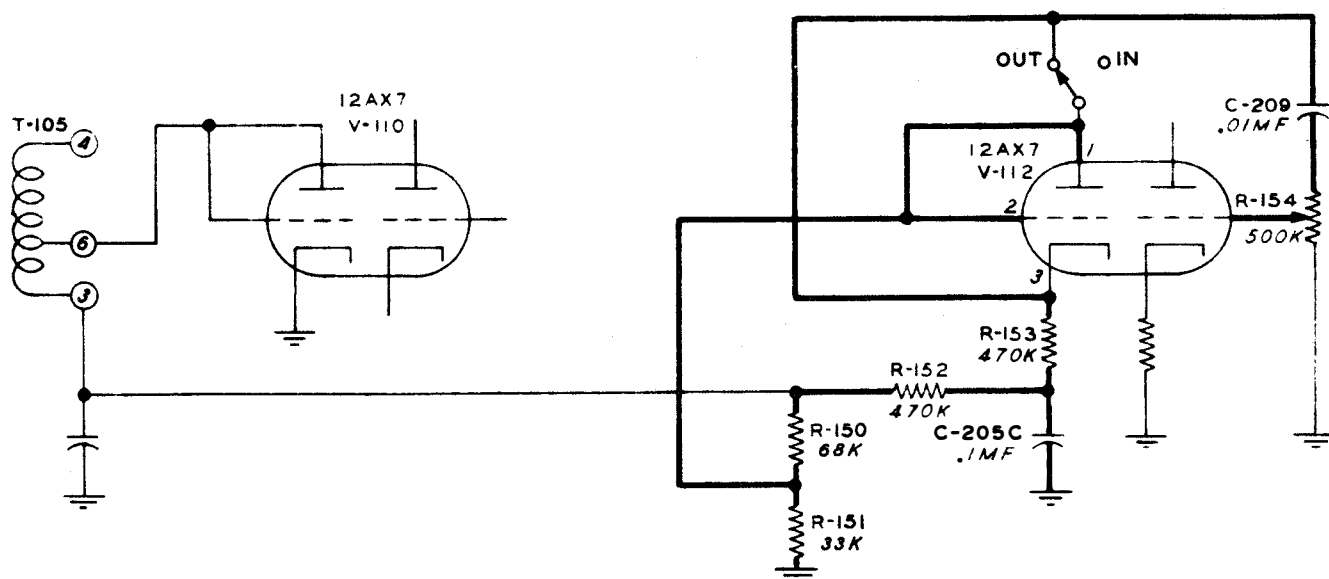

Figure 2-8. Noise Limiter Circuit
i. **NOISE LIMITER.** - A series type noise limiter is used in the receiver. This limiter employs one-half (pins 1, 2, and 3) of a dual triode Tube 12AX7 (V112). Refer to figure 2-8. Due to the a-c loading of the detector, heavy noise impulses are automatically clipped from the positive audio peaks in the detector. The noise appearing on the negative side of the audio cycle is clipped by the noise limiter.